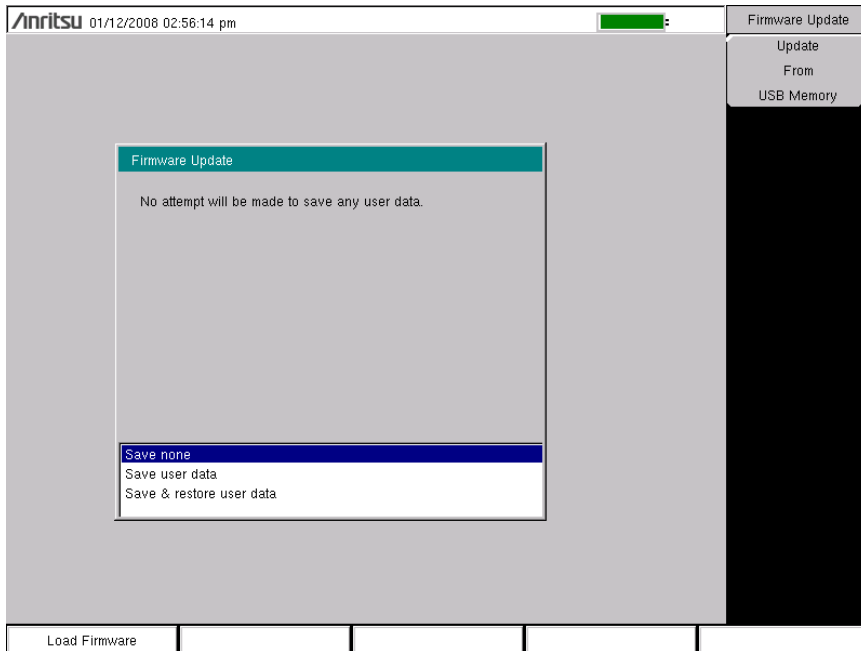

Figure 5-7. Firmware Update Menu
4. Press the Update Application Firmware submenu key and the Firmware Update dialog opens (Figure 5-7).